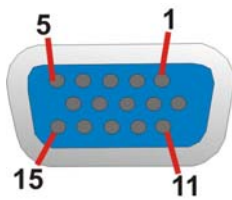

Figure 3-31: VGA Connector
- CN Pinouts:** See **Table 3-34** and **Figure 3-31**